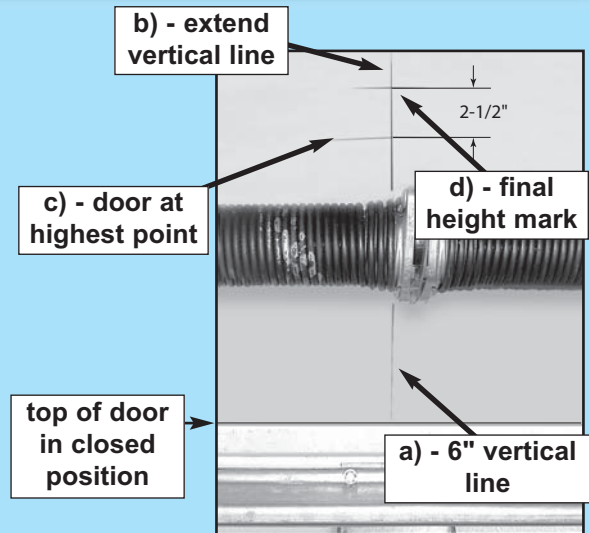

FIG. 2-1 Final height mark.
- b) Continue this line on wall above door for about 12" (Fig. 2-1, a).
- Mark height measurement on wall above door (Fig. 2-1, c).
- Add 2-1/2" to height mark just made on wall. This is location for header bracket (Fig. 2-1, d).